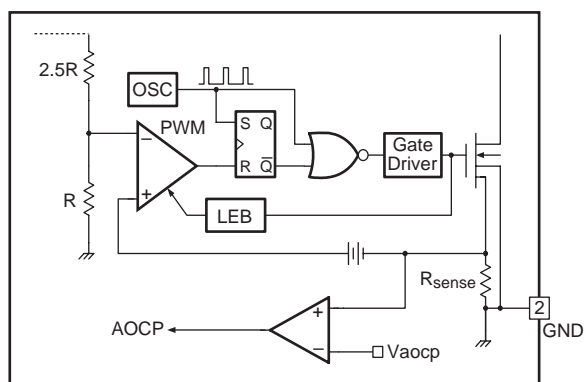

Figure 14. AOCP Block
**4.2 Abnormal Over Current Protection (AOCP):** When the secondary rectifier diodes or the transformer pins are shorted, a steep current with extremely high di/dt can flow through the SenseFET during the LEB time. Even though the FSCQ-Series has OLP (Over Load Protection), it is not enough to protect the FSCQ-Series in that abnormal case, since severe current stress will be imposed on the SenseFET until the OLP triggers. The FSCQ-Series has an internal AOCP (Abnormal Over Current Protection) circuit as shown in Figure 14. When the gate turn-on signal is applied to the power SenseFET, the AOCP block is enabled and monitors the current through the sensing resistor. The voltage across the resistor is then compared with a preset AOCP level. If the sensing resistor voltage is greater than the AOCP level, the set signal is applied to the latch, resulting in the shutdown of SMPS. This protection is implemented in the latch mode.